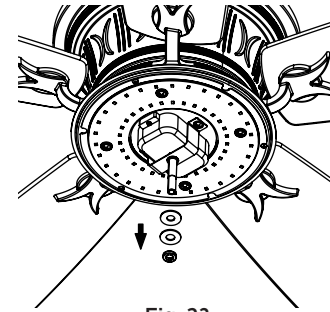

Fig. 23
Step 2. Remove and retain the manual nut, metal washer and silicone washer from the threaded rod on the light kit. (Fig. 23)